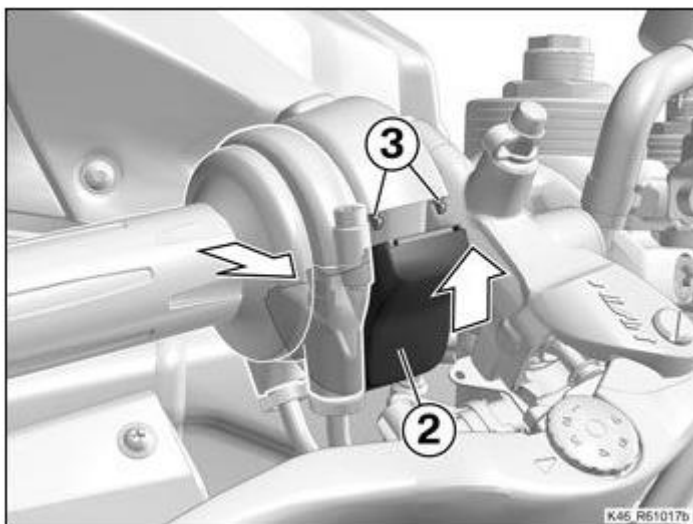

Fig. 8
- Press the cover (2) upwards and remove it (pay attention to the retaining tabs (3)) (Figure 8)